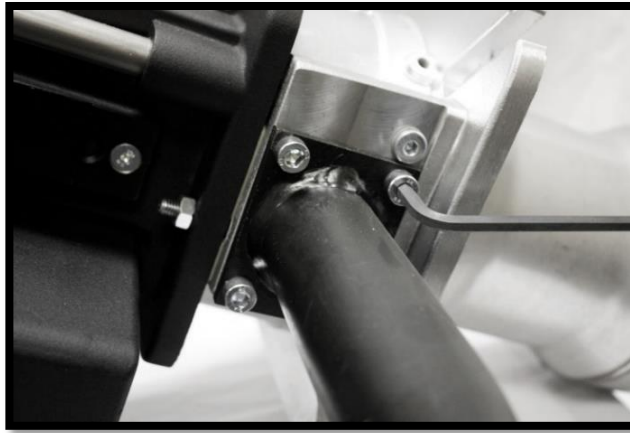

Figure 9
2. Remove the four Allen head screws that hold the manifold pipe to the burner housing and remove the manifold pipe, see Figure 9.
3. Remove the cover from the fan housing, see Figure 9.